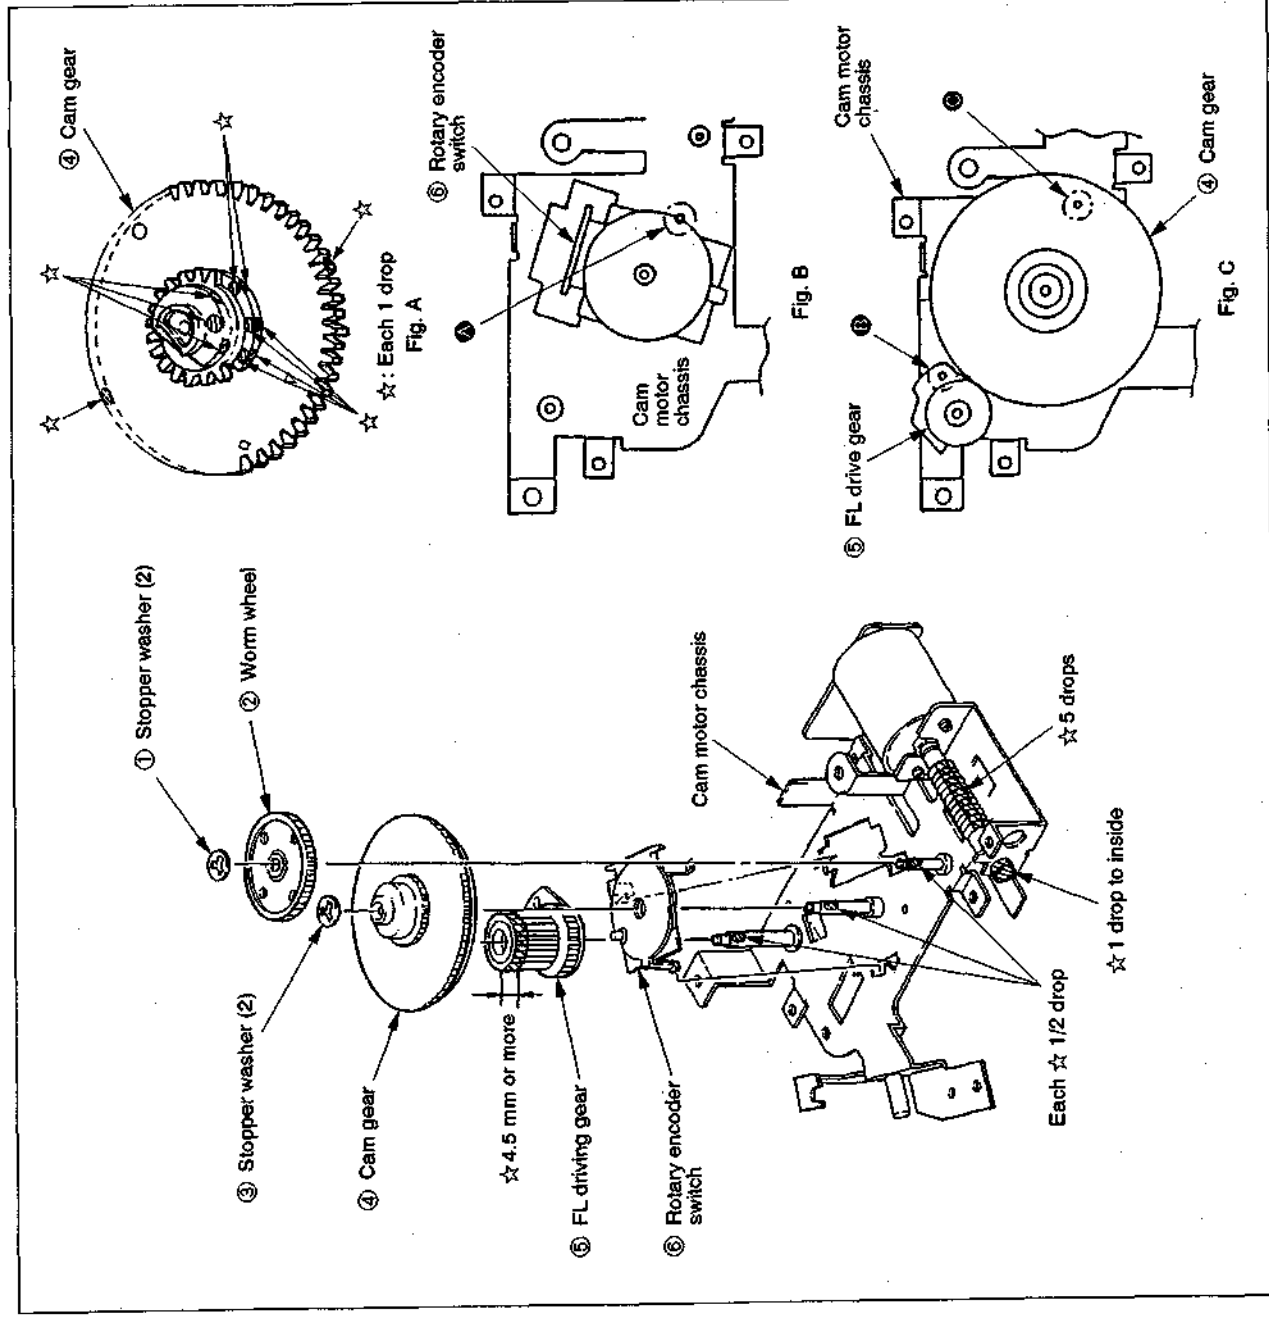

Fig. 3-19
3-17. ROTARY ENCODER SWITCH (Fig. 3-19)
- Apply FLOIL SG-055G (Jig Ref. No. J-12) to ☆ marked portions. (Fig. 3-19, A)
- Adjust the hole ④ to the hole on cam motor chassis. (Fig. B)
- Adjust the holes ⑤ and ⑥ to the hole on cam motor chassis. (Fig. C)